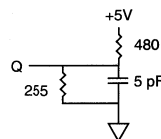

Fig. 2 OUTPUT LOAD EQUIVALENT
6. tHZCE and tHZWE are specified with CL = 5pF as in Fig. 2. Transition is measured ±500mV from steady state voltage.